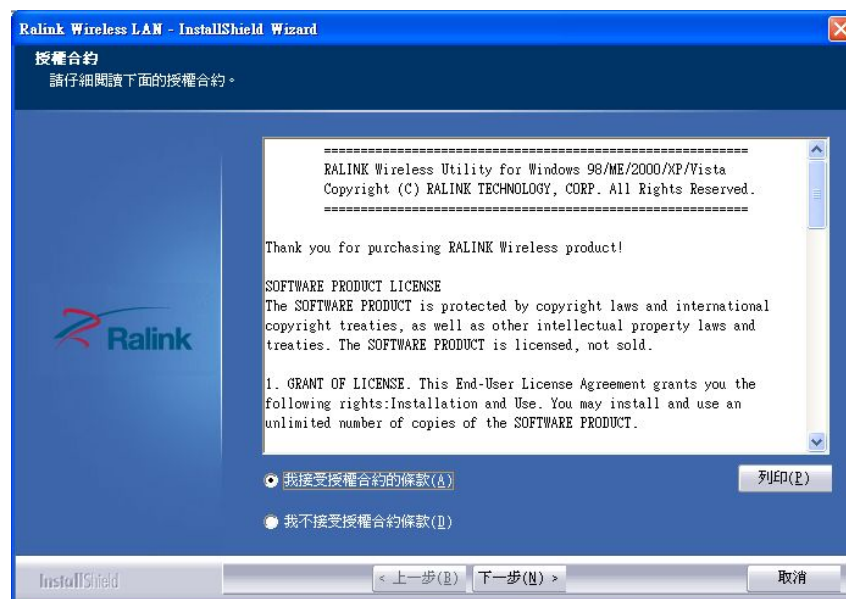

Figure 7-40: Wireless Driver License Agreement
Step 3: The license agreement in **Figure 7-40** appears.